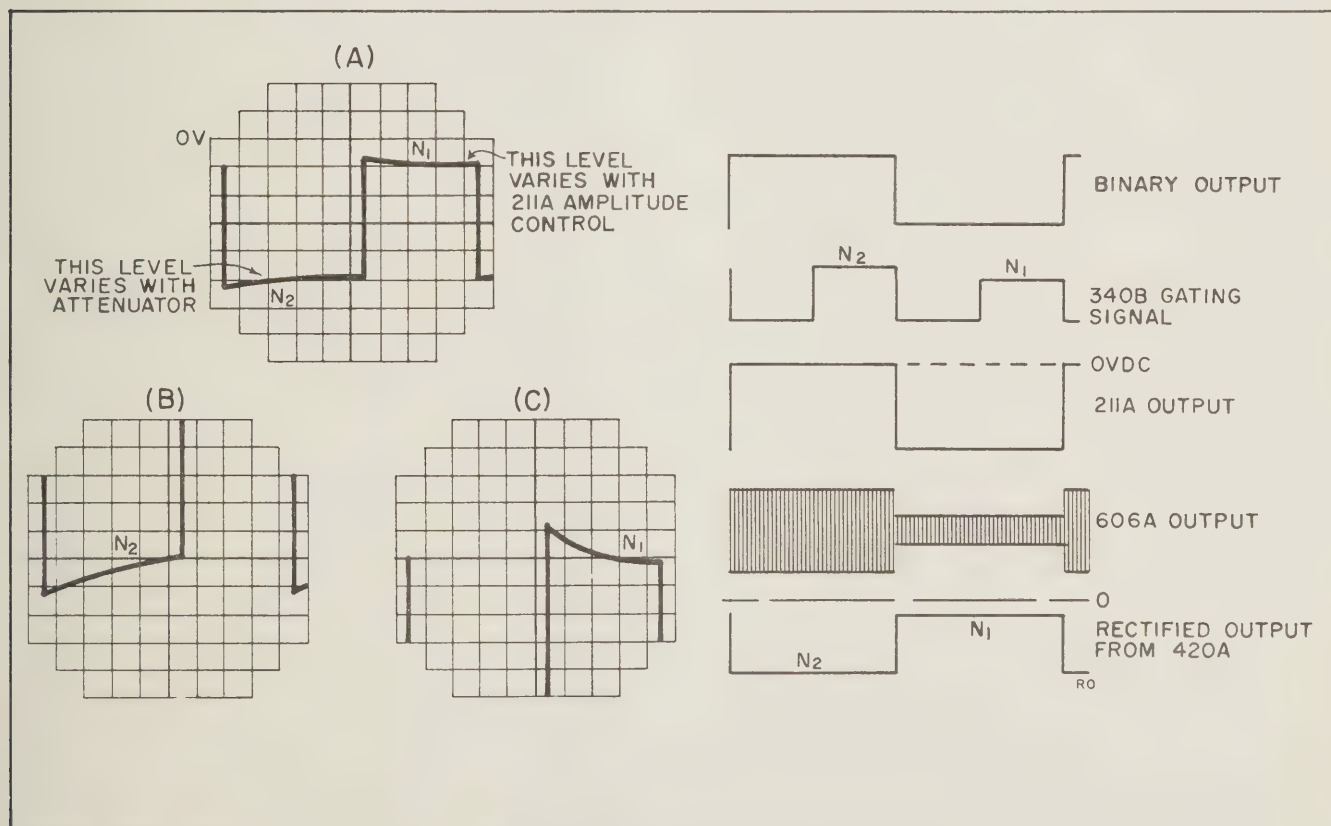

Figure 4-6. Waveforms
7) Set 606A ATTENUATOR to 0 DBM; adjust 355A for 11 db of attenuation, and note the position of N_1 and N_2 pulses on the oscilloscope (see Fig. 4-6).
8) Turn 130B VERT. SENSITIVITY switch to 1 MILLIVOLT/CM; adjust VERT. POS. control to align the trailing edge of N_2 pulse with center line of graticule (see Figure 4-6).